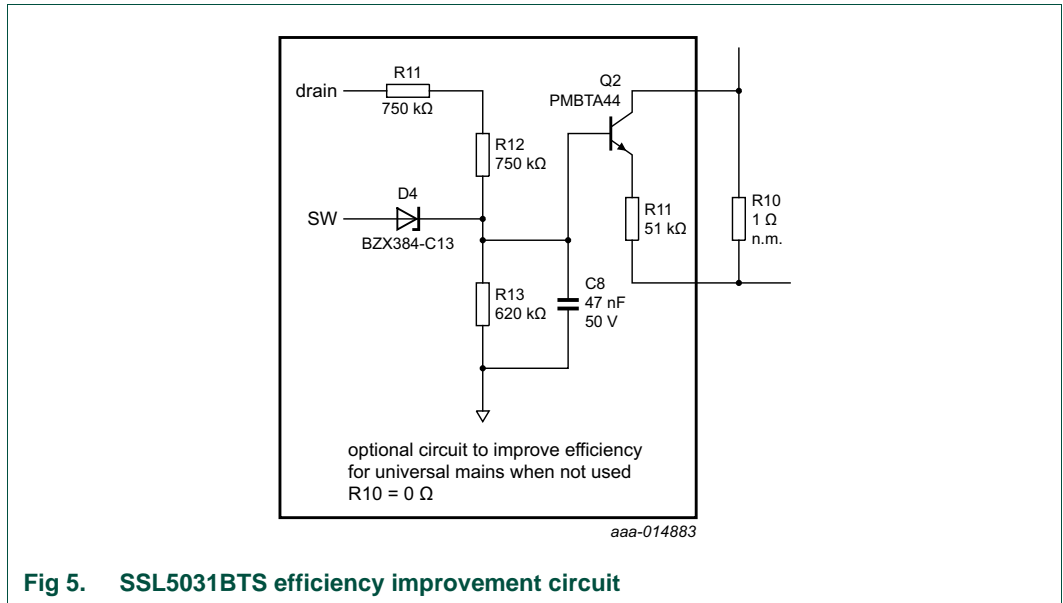

Fig 5. SSL5031BTS efficiency improvement circuit
For universal mains, the start-up supply resistors must be set up to start the IC at 90 V (AC). This setup causes much unnecessary dissipation and efficiency loss at 230 V (AC). To avoid the extra loss at high mains, an optional circuit is used (see Figure 5). The efficiency improvement from this circuit is 3 % to 5 % at 230 V (AC). Transistor Q2 is set up as a current limited voltage source. The current limited voltage source is turned off using diode D4 and kept in off-state using capacitor C8 when the SSL5031BTS starts switching. The supply for the IC during switching is coming from the recovered turn-off charge in Q1 which charges capacitor C3.
If the optional circuit (see Figure 5) is used, the current (set by $\frac{D4}{R11}$) and the parallel current path (set by resistors R11, R12, and R13 and diode D4) set the output voltage at 260 V (AC), the total current is about 285 μ A.